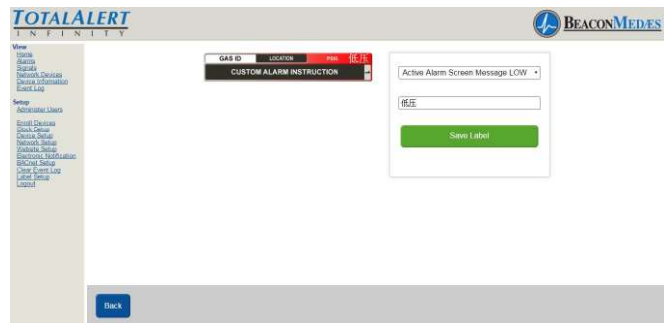

Figure 302
28. To save, select “Save Label” button. (See Figure 302)